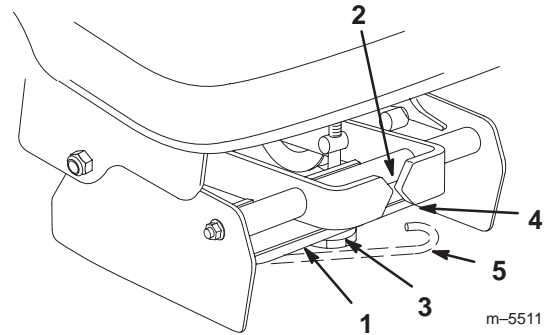

Figure 14
2. Release the belt tension release arm on the pulley box housing and swing it out toward you (Fig. 14).
5. Loop the other end of the belt over the drive pulley of the mower. Additional belt slack can be obtained (if needed) by turning the belt tension adjustment knob (Fig. 14).
- B. Check the tension indicators on front of the pulley box. The two arrow points on the indicators should line up (Fig. 14).
- C. If the tension indicators do not line up, release the belt tension, turn the adjustment knob and repeat steps A through C until the indicators line up (Fig. 14).
When finished, swing the tension release arm into the pulley box and seat it by moving it into the position shown in Figure 14.